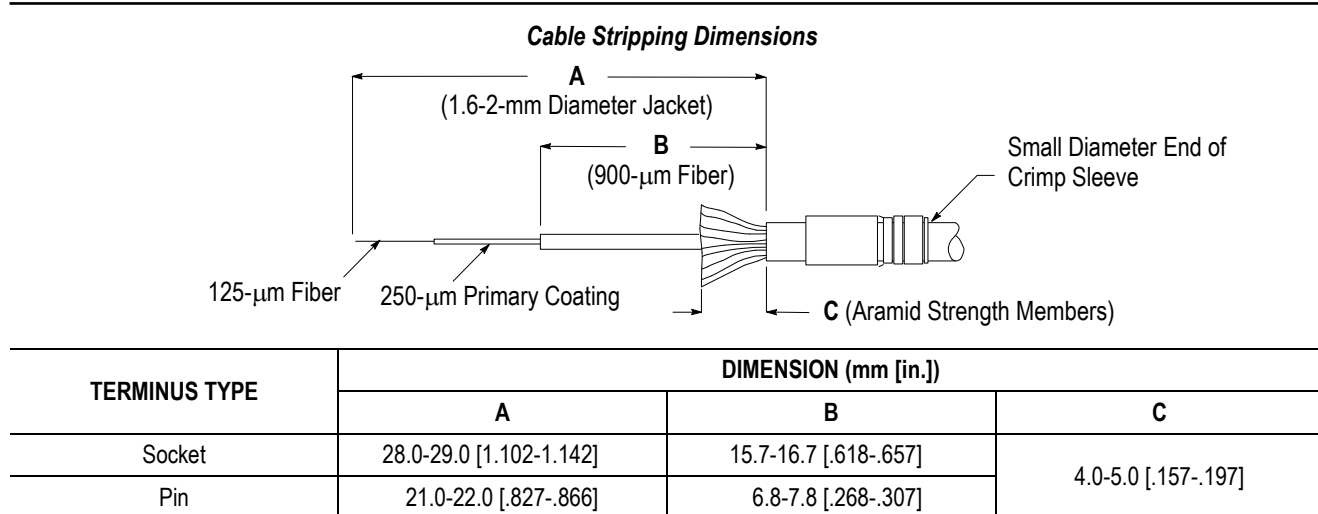

Figure 2
Each terminus kit is designed to be terminated to a loose tube or semi-tight multimode 1.6 to 2-mm diameter fiber optic cable having the structure shown in Figure 2. These terminus kits are not suited for termination to cables having ultra-tight structure (where no movement is possible between the buffer and the jacket).
2. Using the ruler, aramid shears, fiber jacket stripper, and stripping tool, strip the cable to the dimensions given in Figure 2.